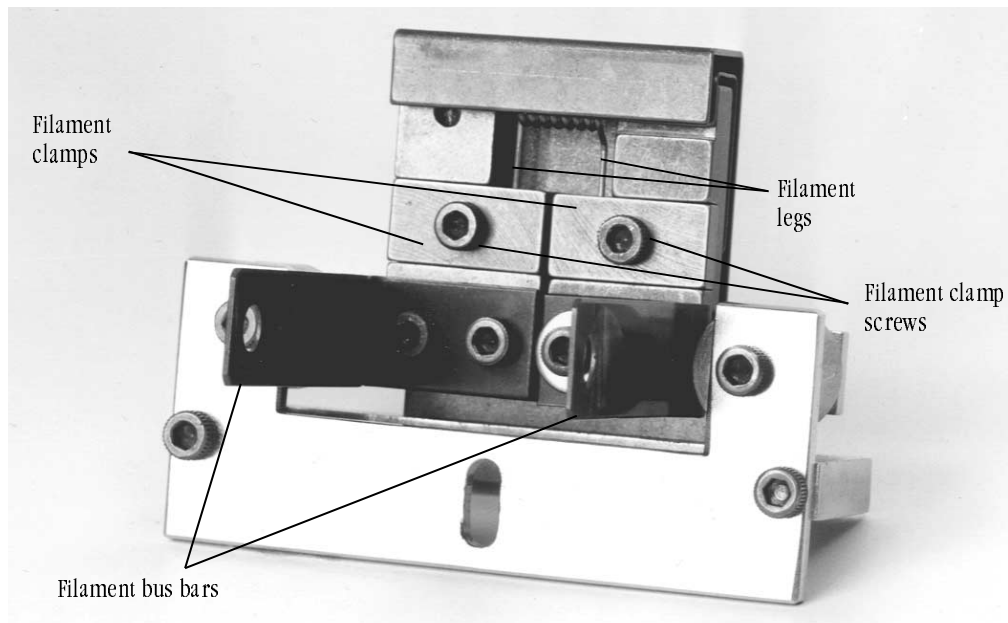

Figure 4-2. Standard emitter assembly
| 10 | The filament is held in place by two screws that secure the filament clamps to the cathode blocks (see Figure 4-2). Set the emitter assembly on a clean surface and remove these screws. |
| 17 | Now gradually snug down each filament clamp screw, tightening first one and then the other. When the filament is correctly positioned, you must be able to verify the following if you view the emitter from the front: (1) Approximately one-third of the coil should be visible beneath the edge of anode, and (2) the bottom edge of the filament coil must be parallel with the bottom edge of the beam former (see Figures 4-2 and 4-4). In addition, when viewed from the bottom, the filament coil must be parallel with the leading edge of the beam former. |
To reassemble the emitter, follow the instructions below and refer to Figures 4-2 through 4-7. Note that it is best to use new ceramic parts when reassembling the emitter. It is extremely difficult to clean these parts thoroughly, and they are likely to have invisible cracks that can result in breakage upon reassembly and/or shorts during subsequent source operation.